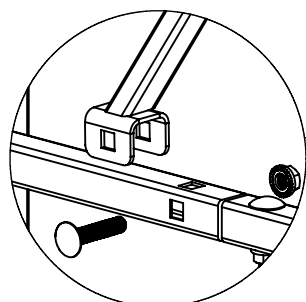

FIGURE 17.2
STEP 13: Take the (3) Opening Support "Q" and place them in the front opening of the blind. One will go directly in the middle, the left one will go just to the left of the Left Vertical Support on the Front Panel and the right one will go just to the right of the Right Vertical Support on the Front Panel. The Bottom of the Opening Support "Q" will go over the top tube on the Front Panel Assembly, See Figure 17.2. The Top of the Opening Support "Q" will go around the top tube on the Top Frame Assembly, see Figure 17.3. With all the braces in place secure them using (6) 1.75" long carriage bolts and (6) flanged lock nuts, (3) on top and (3) on the bottom. **Make sure the bolts are inserted with the smooth side of the bolt to the outside of the frame and the nut on the inside of the frame.** Once all of them are installed, tighten them all down.